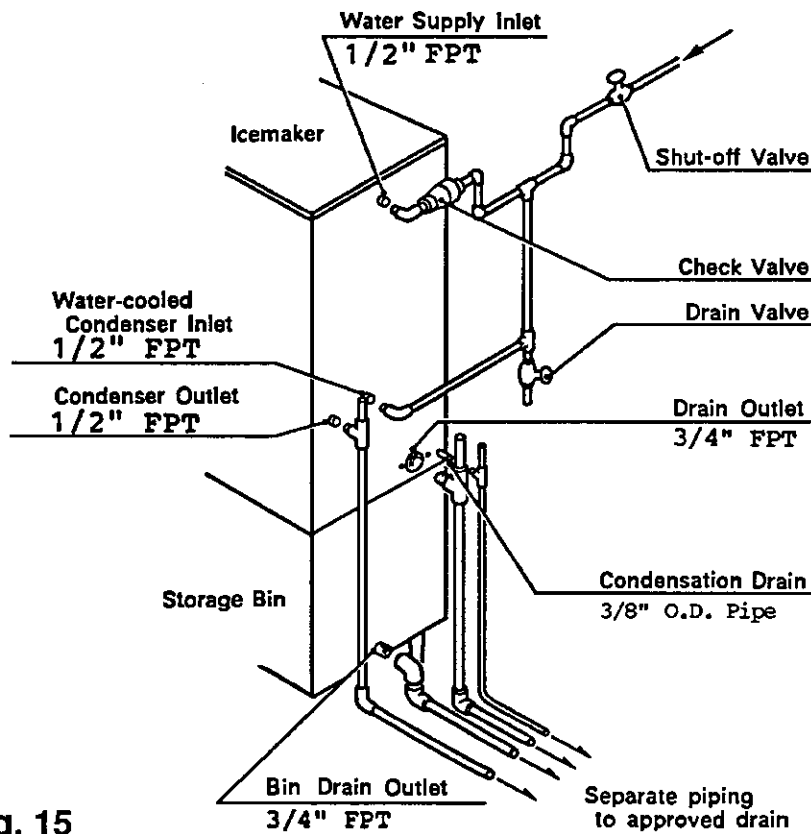

Fig. 15
7. WATER SUPPLY AND DRAIN CONNECTIONS - See Fig. 15